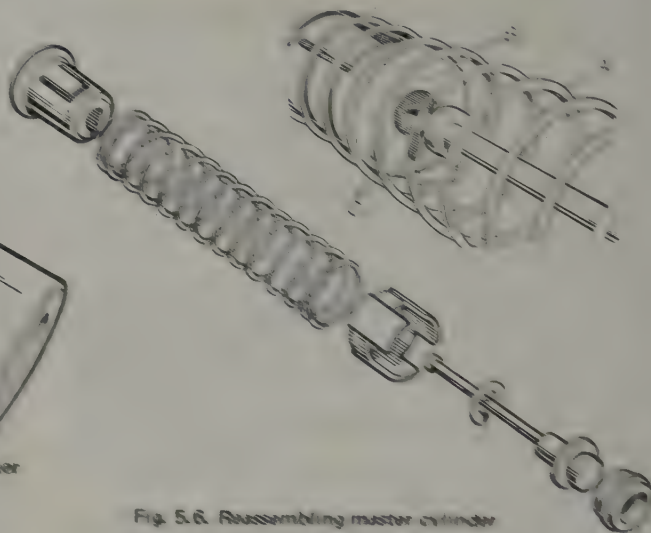

Fig. 5.6. Reassembling master cylinder
- 6 Compress the spring so that the valve stem is in line with the larger hole in the spring retainer (Fig. 5.6), and remove the spring and retainer.